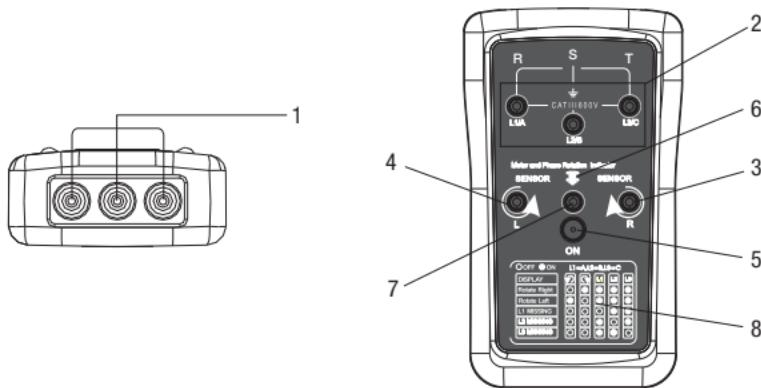
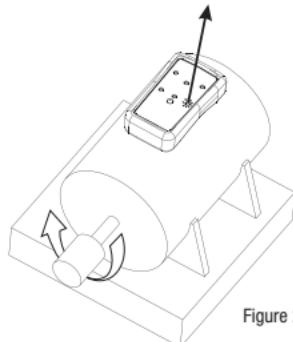

Figure 1
Figure 2
- b. Place the 5124 towards the motor, in parallel with motor shaft. The bottom of the instrument should face the shaft. The 5124 should be oriented such that it is opposite the front of the motor as shown in Figure 2. The motor location indicator is also shown on Figure 1.
- c. Press the "ON" button and the power indicator will illuminate and the test will begin. While the motor is running, the "Clockwise" (R) or "Counter clockwise" (L) will illuminate indicating the direction of rotation of the motor.